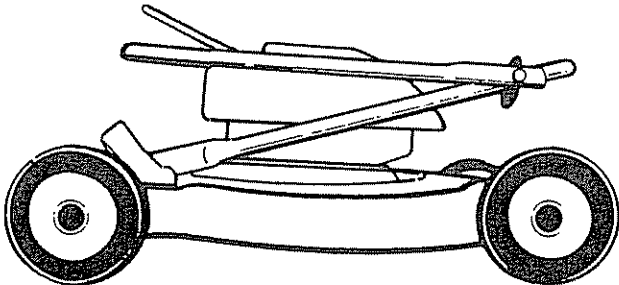

FIGURE 14.
- You can fold your mower's handle for storage as shown in figure 14. Remove the starter rope from the rope guide. Loosen the two hand knobs on the sides of the handle, and let the upper handle fold down to the rear. Move the hairpin clips to the outer hole in the weld pins on the handle mounting brackets. Refer to figure 3. Spread the sides of the lower handle, and push it forward and down.